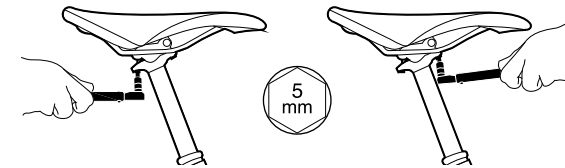

Figure 9. Steps for tightening/loosening the fitting blocks
1. Loosen the two screws that hold the saddle and seat post using a 5mm allen key (Figure 9) until the saddle can move easily.